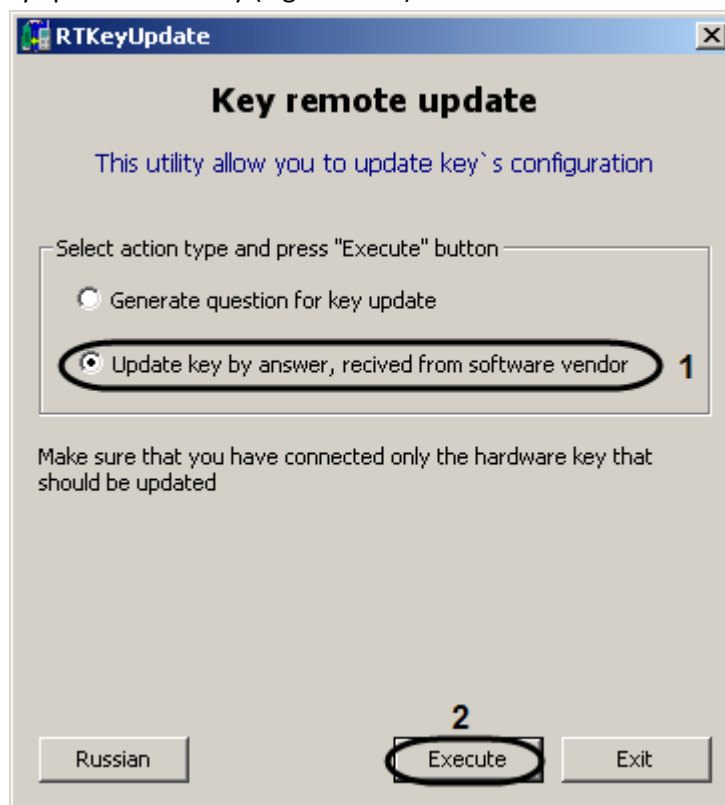

Fig. 12.2—6 Key update by answer, received from software vendor
2. Set the «Update key by answer received from software vendor» checkbox (Fig. 12.2—6, 1).